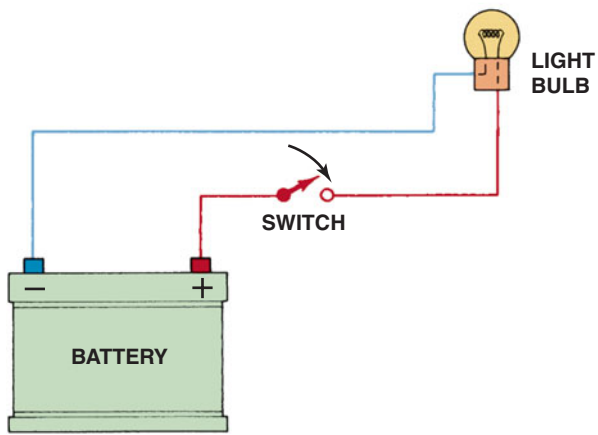

FIGURE 4-3 An electrical switch opens the circuit and no current flows. The switch could also be on the return (ground) path wire.
6. Switches and controls that turn the circuit on and off (● SEE FIGURE 4-3.)